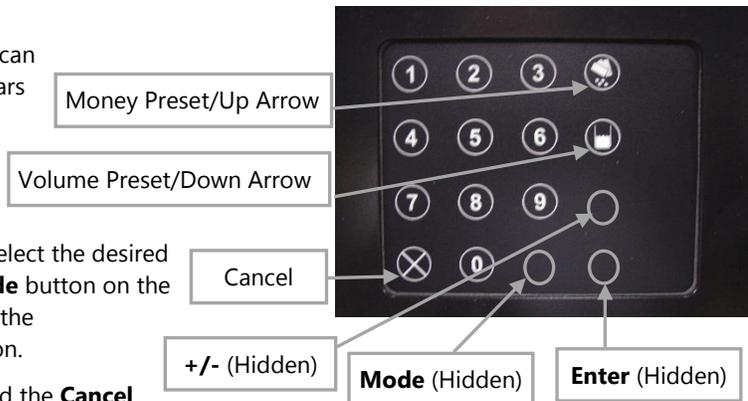

Figure C.4 – Local Preset Keypad
**Note:** The Local Preset Keypad does not have the **Mode**, **Enter**, and **+/-** buttons shown on the overlay. The **Mode**, **Enter**, and **+/-** buttons are available for your use however they are hidden and can be felt through the overlay. The **Mode** button is located to the right of the **0** button and below the **9** button. The **Enter** button is located to the right of the **Mode** button and two spots down from the **Volume Preset** button. The **Money Preset** button is used as the Up Arrow (↑) and the **Volume Preset** button is used as the Down Arrow (↓). Refer to *Figure C.4* for button locations.
2. Buttons **1** through **9** on the local preset keypad shown in *Figure C.4* are used to select the desired menu code option. Press the hidden **Mode** button on the keypad to enter the code. **Note:** Refer to the Programming section for more information.